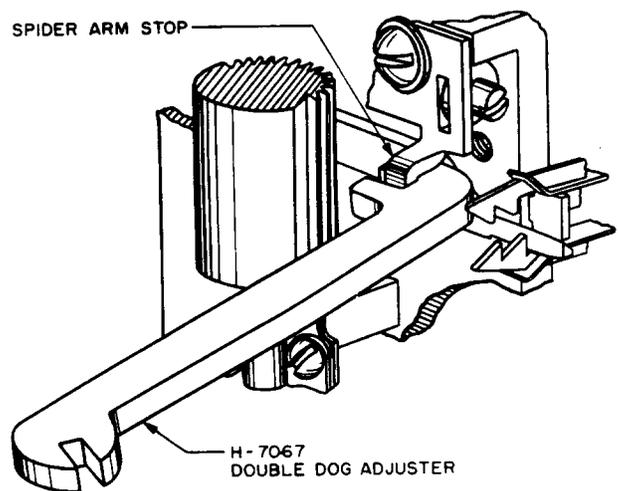

Fig. 10 - Method of Adjusting the Spider Arm Stop
(1) To center the wipers on the block contacts in the third side switch position, adjust the spider arm stop as required with the H-7067 double dog adjuster as shown in Fig. 10.